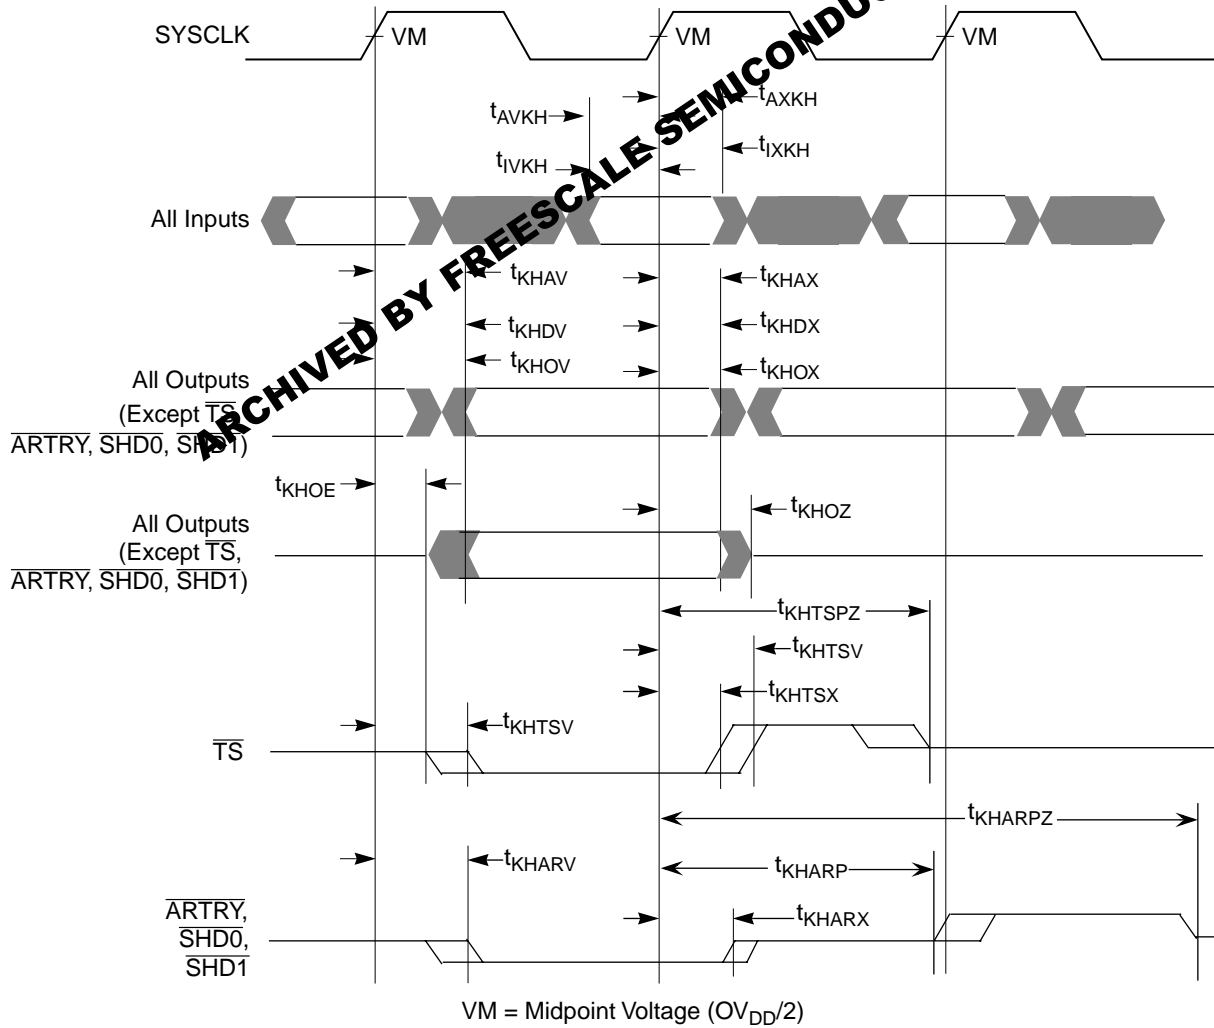

Figure 6. Input/Output Timing Diagram
- According to the bus protocol, $\overline{\text{TS}}$ is driven only by the currently active bus master. It is asserted low then precharged high before returning to high impedance as shown in Figure 6. The nominal precharge width for $\overline{\text{TS}}$ is $0.5 \times t_{\text{SYSCLK}}$, less than the minimum t_{SYSCLK} period, to ensure that another master asserting $\overline{\text{TS}}$ on the following clock will not contend with the precharge. Output valid and output hold timing is tested for the signal asserted. Output valid time is tested for precharge. The high impedance behavior is guaranteed by design.
- According to the bus protocol, $\overline{\text{ARTRY}}$ can be driven by multiple bus masters through the clock period immediately following $\overline{\text{ACK}}$. Bus contention is not an issue because any master asserting $\overline{\text{ARTRY}}$ will be driving it low. Any master asserting it low in the first clock following $\overline{\text{ACK}}$ will then go to high impedance for one clock before precharging it high during the second cycle after the assertion of $\overline{\text{ACK}}$. The nominal precharge width for $\overline{\text{ARTRY}}$ is $1.0 t_{\text{sysclk}}$; that is, it should be high impedance as shown in Figure 6 before the first opportunity for another master to assert $\overline{\text{ARTRY}}$. Output valid and output hold timing is tested for the signal asserted. The high-impedance behavior is guaranteed by design.
Figure 6 provides the input/output timing diagram for the MPC7450.